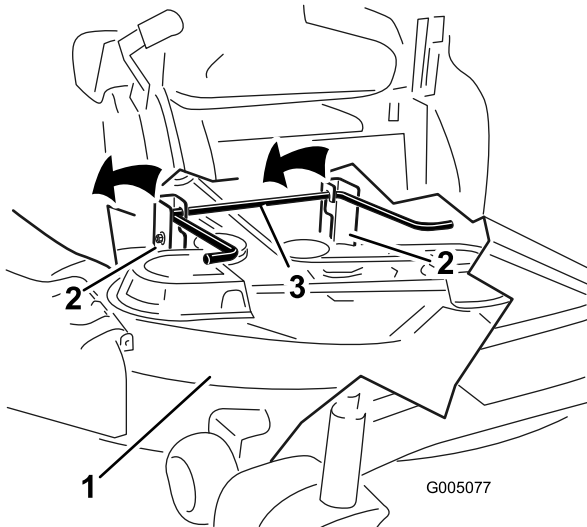

Figure 55
5. Lift the mower deck and hanger brackets clear of the rear lift rod and lower the mower carefully to the ground (Figure 55).